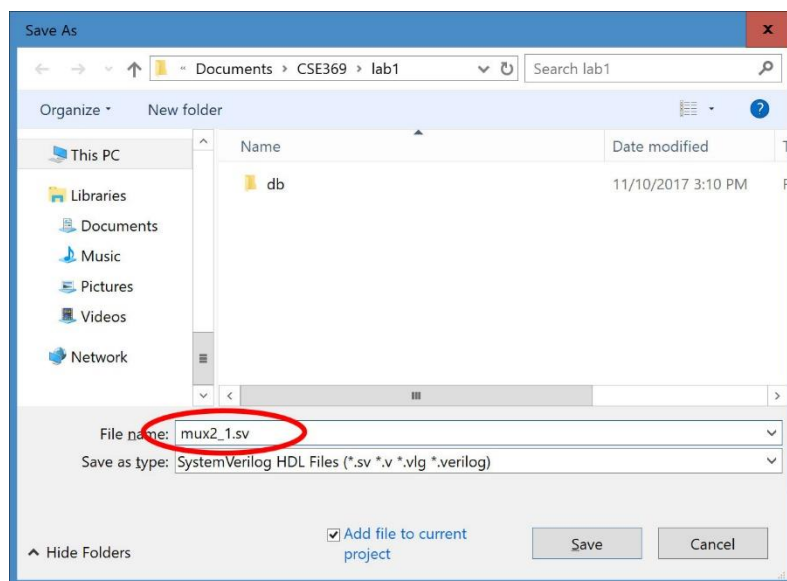

Figure 2: Saving and naming Verilog files in Quartus.
- 3) **Name the file.** The new file is opened for you in Quartus’ text editor, but doesn’t have a name yet. Go to File→Save As and give it the name `mux2_1.sv` (Figure 2). You should notice that the title bar for the editor pane has now changed.